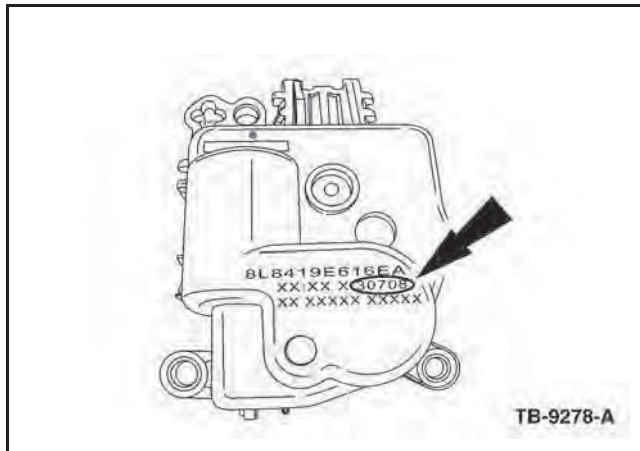

Figure 1 - Article 09-2-3
2. Inspect the 5 digit manufacturer's date code on the temperature blend door actuator. It will be the last 5 digits on the second line of manufacturer's data. The first three digits equal day of year. The last two digits equal year. (Figure 1)